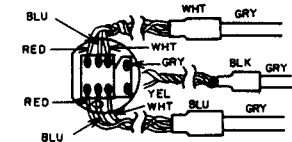

fig. 3-3
* Lead wire colors may change without notice. Before disconnecting the lead wires on the unit, confirm that the color of the lead wires are the same as shown in Fig. 3-3.